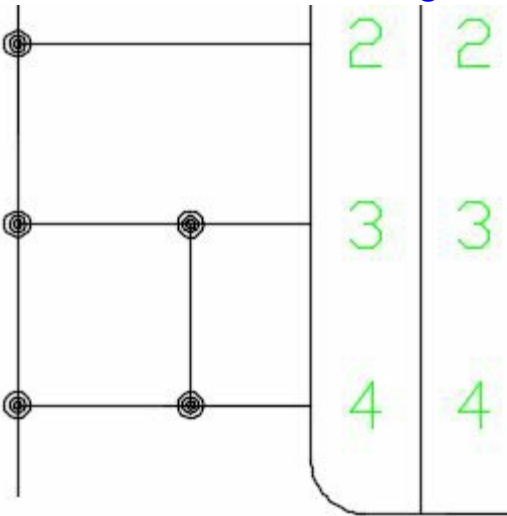

Figure-38. Wire connected
- Click on the wire connected to connector number **3** in the left and connect it to the wire connected to connector number **4**; refer to Figure-38.